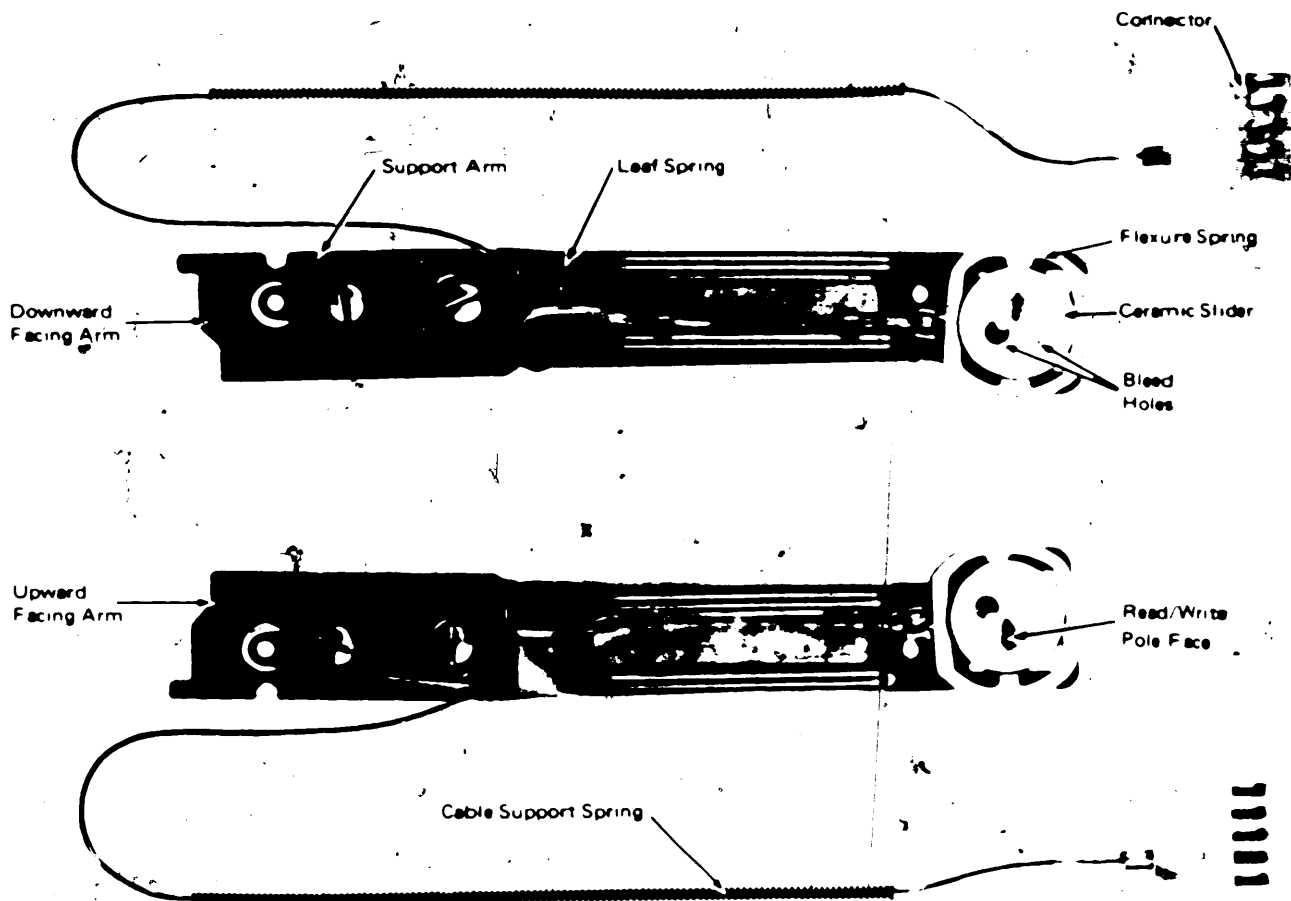

Figure 1-22 Head Arm Assembly [07483]
- The head/arm assembly (Figure 1-22) Fr. C11 consists of a read/write head, support arm, and connecting cable and plug.
The read write head on its ceramic slider is mounted on a leaf spring screwed to the support arm (see Figure 1-22). The support arm fits into a slot in the carriage and the head arm assembly is adjusted in this